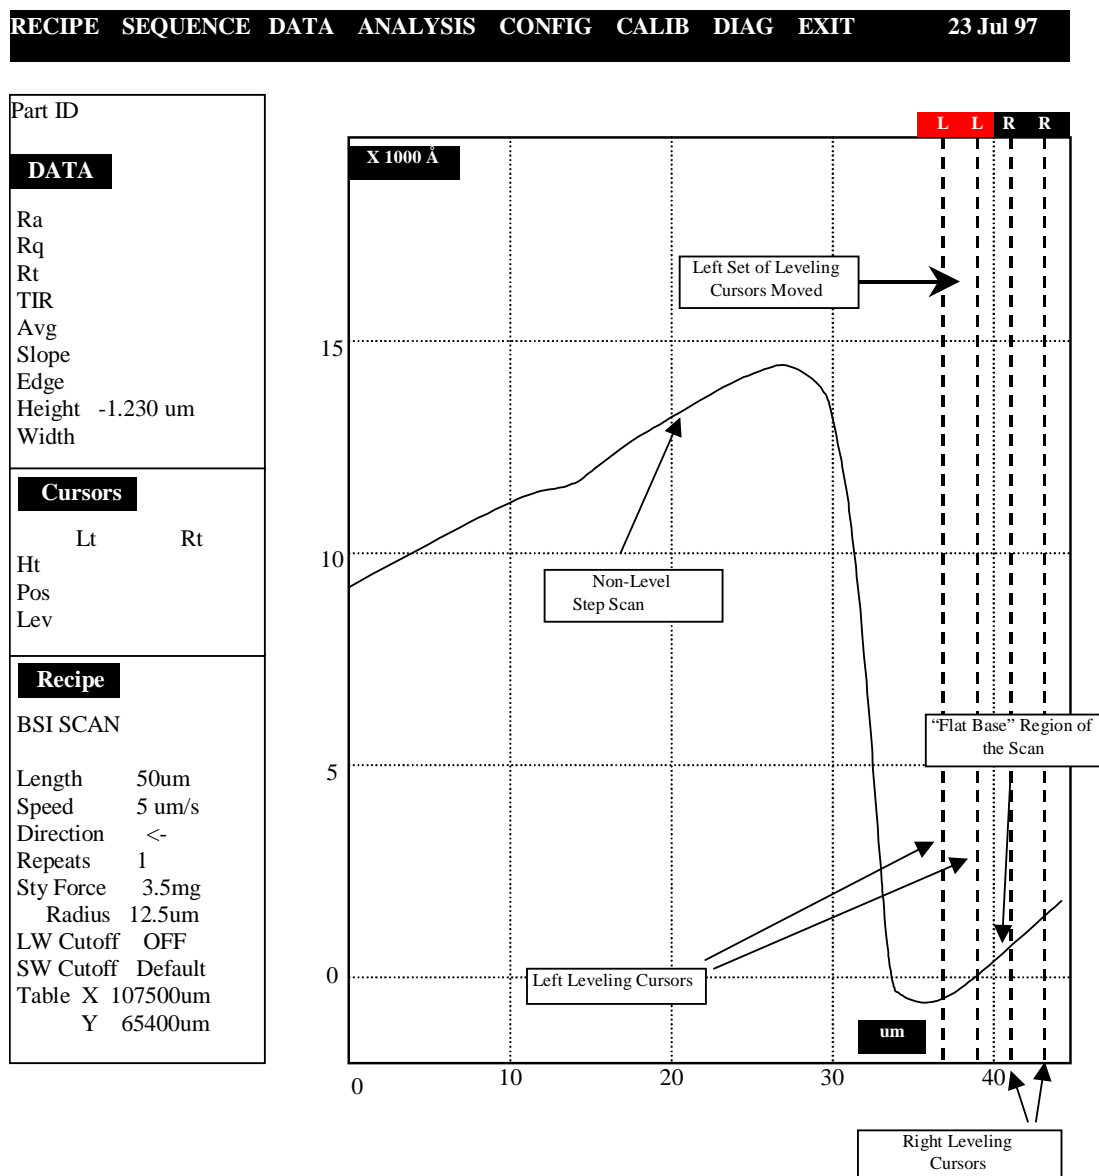

Figure 3. Tencor Trace with Leveling Cursors Set Properly
- 6.7.3 Either the left or the right set of cursors will be enabled as indicated by the highlighted characters at the top of the scan. Toggle between the two sets of cursors by pushing the **space** bar on the keyboard. Using the left or right arrow keys move the cursors into the flat base region on the graph. The scan should now look like that shown below in Figure 3.